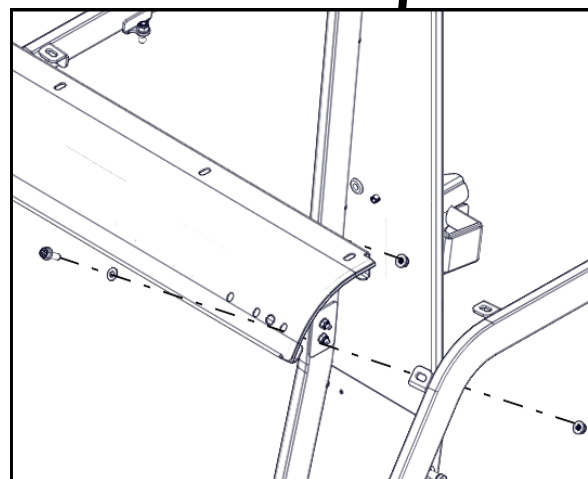

Fig. 11.2 (Windshield Support Installation)
11.2. Install lower bolts only in windshield support. Upper bolts are installed during roof installation at step 15. See Fig 11.2.